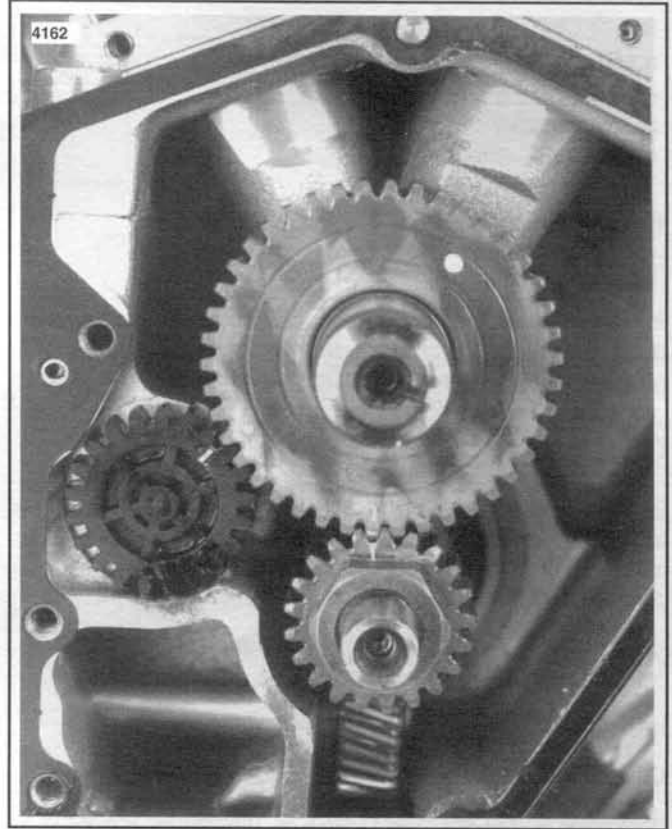

Figure 3-55. Timing Gears with Marks Aligned
3. See Figure 3-55. Breather, cam and pinion gears have timing marks which must be aligned or matched. Rotate gear train and note if it revolves freely. Binding indicates gears are meshing too tightly.